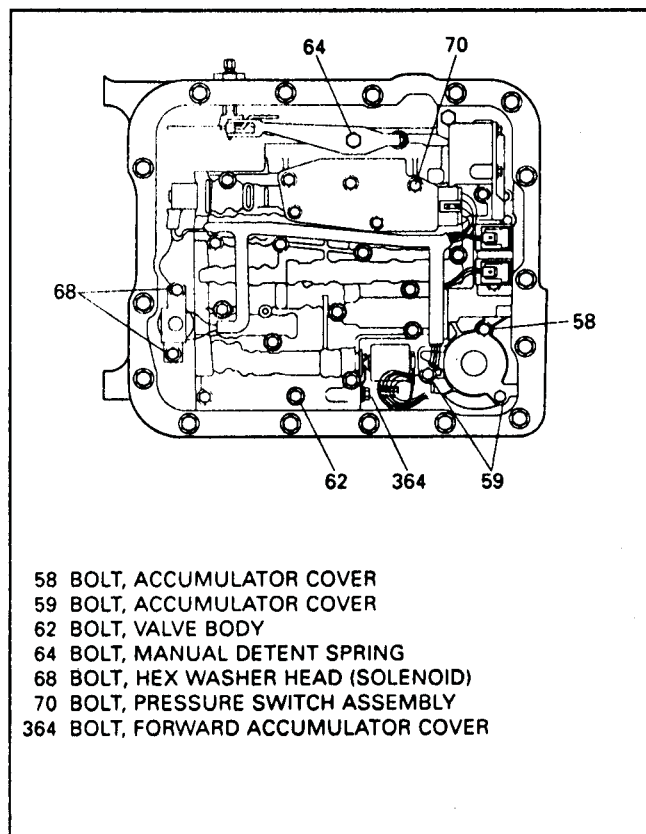

Figure 41
31. Refer to Figures 41 and 42.